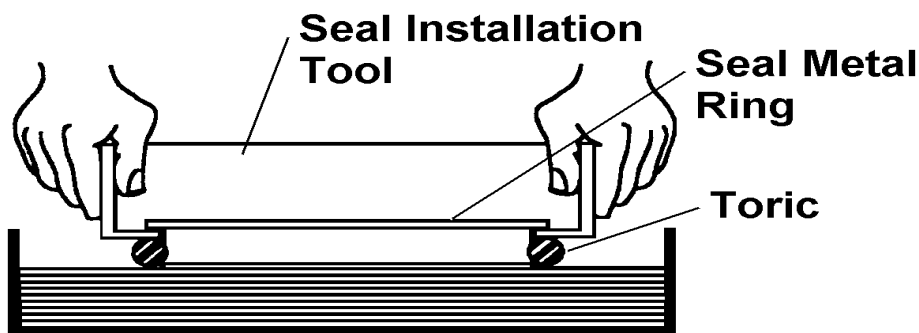

FIGURE 2
7. Use seal installation tool 075-007 to install one half of the Duo-Cone seal assembly into seal ramp on wheel. Wet the lower half of the toric in approved lubricant by dipping or brushing on with a clean foam brush, or wiping on with a lint free cloth. See **Figure 2**.